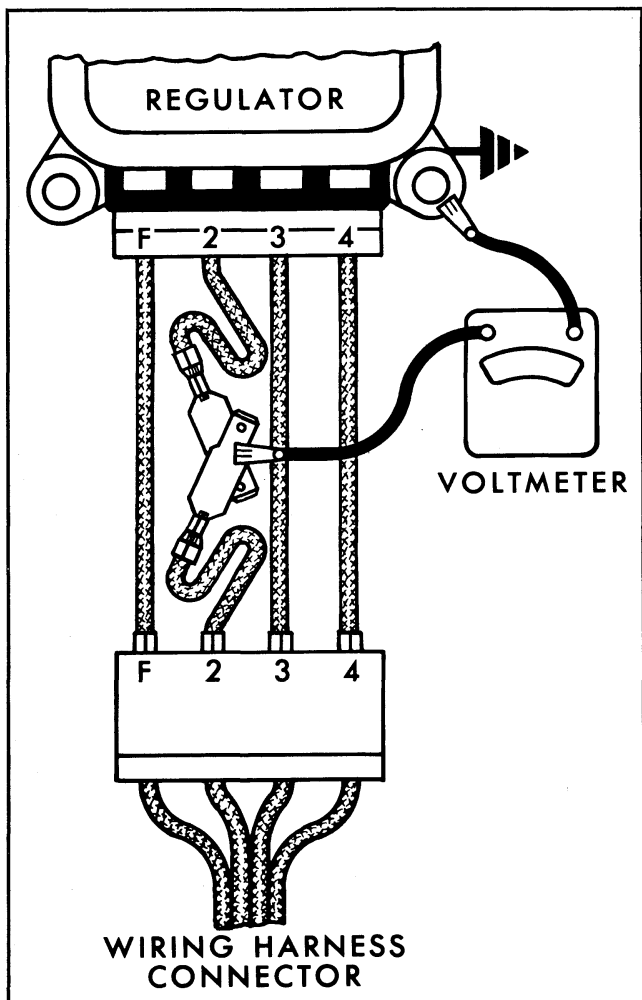

Fig. 11-32 Checking Field Relay
a. Make connections to the adapter as shown in Fig. 11-32.